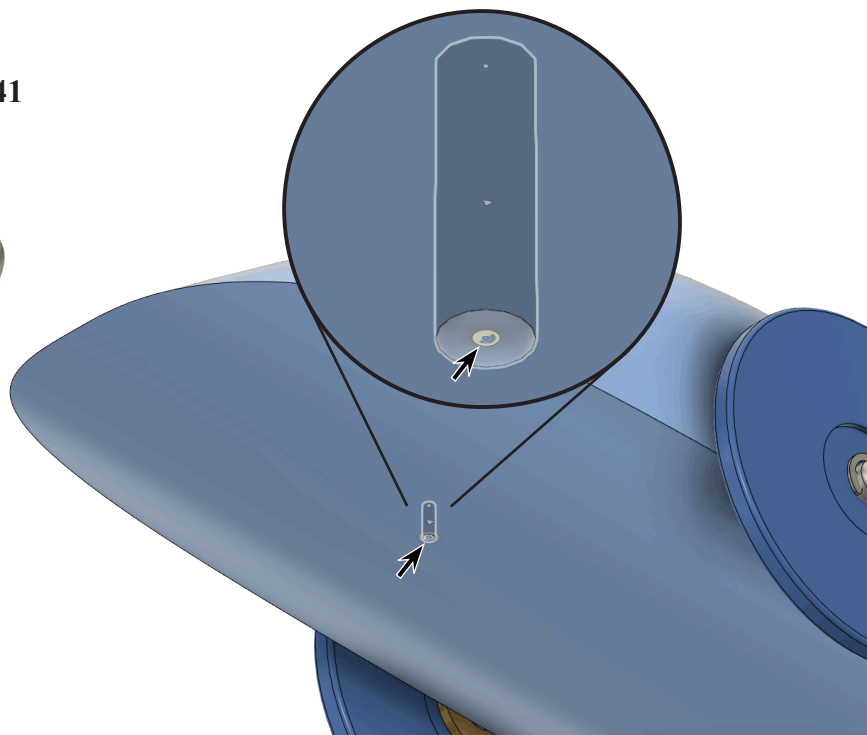

Fig. 40
Step 4. On the Solid tab **SOLID** click **Joint**  (J) in the Assembly area of toolbar.
Step 5. Click **cylindrical edge at end of sweep on the Eye Screw for Joint Origin**  and **edge of front eye screw hole in Body for Joint Origin** , Fig. 40.